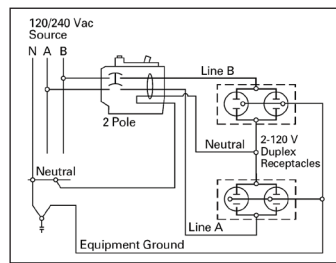
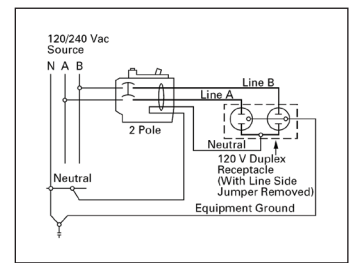

Figure 16. Two-pole, shared neutral with multi-duplex receptacle application
Figure 18. Two-pole, shared neutral with duplex receptacle application
- ^c Independent trip refers to two-pole multi-wire, home run or shared neutral circuits (see **Figure 16** and **Figure 18**).